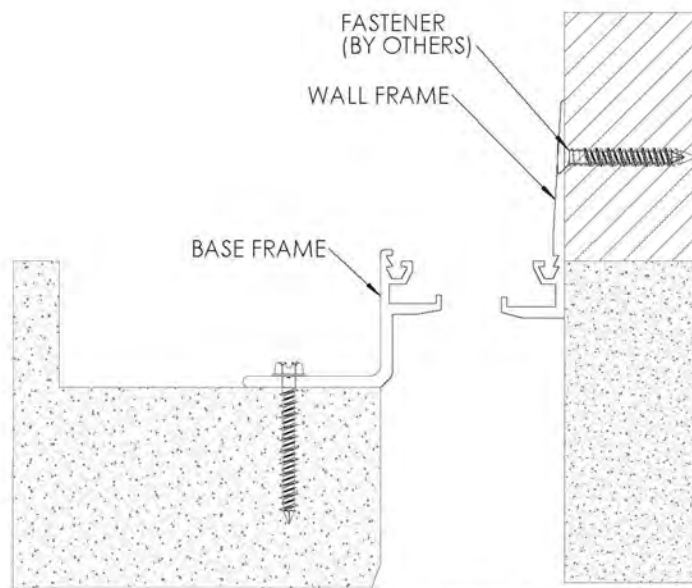

FIGURE 3
3. Position the wall frame into position, making sure the top channel is level with the top channel of the base frame. Attach the wall frame to the wall with appropriate fasteners (by others) for the wall type 18” o.c. **See Figure 3**